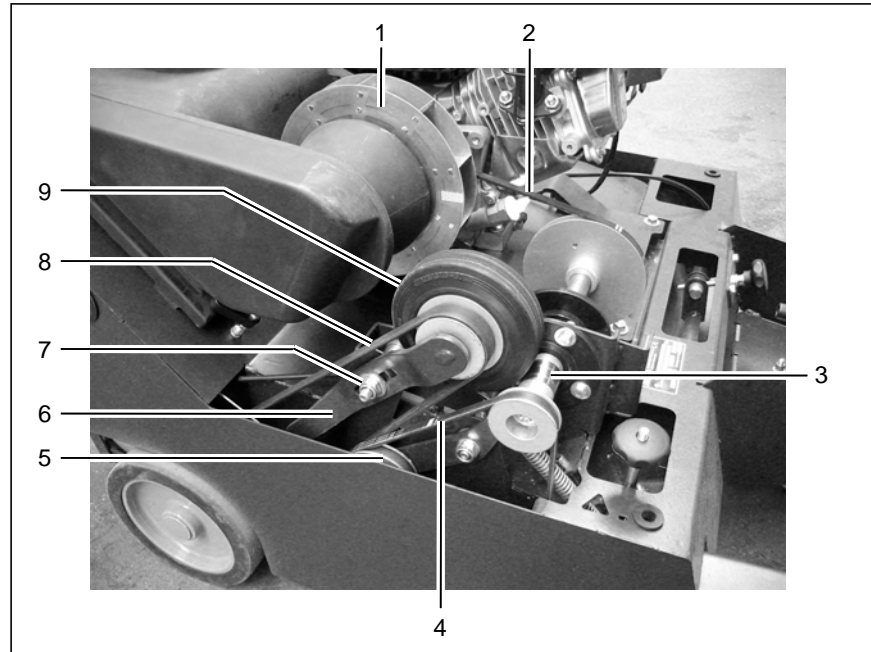
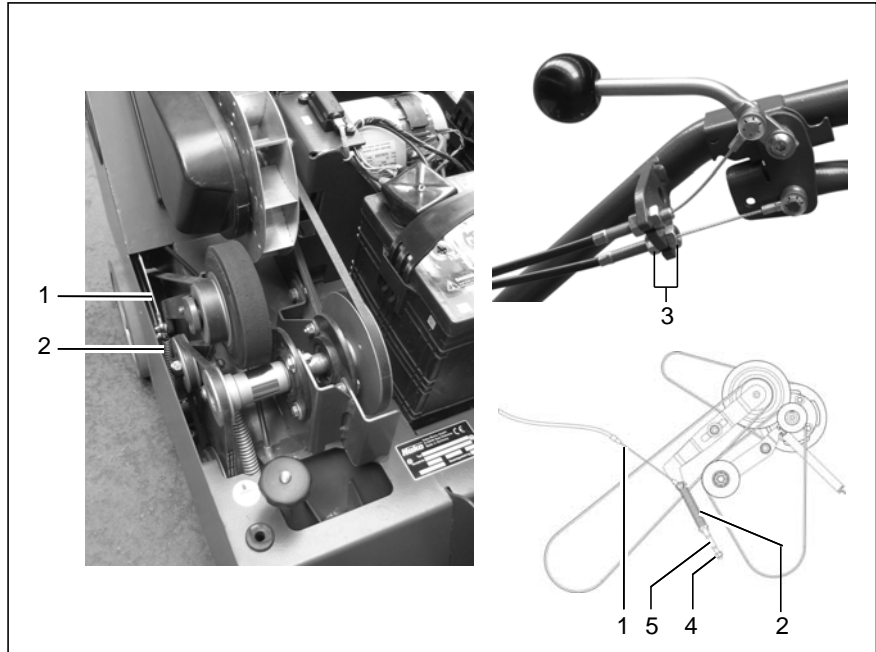

Fig. 16
Fig. 17
Ensure the engine has stopped before opening the hood. Risk of injury through running belt drives (Fig. 16/2+4+8) and rotating fan (Fig. 16/1)!
If you notice that the rear wheel shaft is no longer driven properly, it is possible that the tension of the drive belts (Fig. 16/2+8) is no longer sufficient or the running surface of the friction wheel (Fig. 16/9) is worn (distance between wheel and running surface > 0.04 in).
1. Loosen the screw connection (Fig. 16/7) in the friction wheel crank (Fig. 16/6).
2. Tension the belt (Fig. 16/8) which leads to the rear wheel shaft by moving the friction wheel crank (Fig. 16/6) in the slot using an appropriate tool.
The friction wheel (Fig. 24/9) thereby lies against the drive shaft (Fig. 16/3).
3. Tighten the screw connection (Fig. 16/7) in the friction wheel crank (Fig. 16/6).
5. Turn the hexagon nut (Fig. 17/4) so far on the eye bolt (Fig. 17/5) until the tension spring (Fig. 17/2) tensions and the friction wheel retracts 0.04-0.08 in from the drive shaft (Fig. 16/3).
6. Turn the hexagon nuts (Fig. 17/4) one revolution further.
7. Complete any fine adjustment using the Bowden cable adjusting nuts (Fig. 17/3) on the handlebar: turn the adjusting nuts (Fig. 17/3) so that the distance between friction wheel and drive shaft is between 0.02 and 0.04 in.